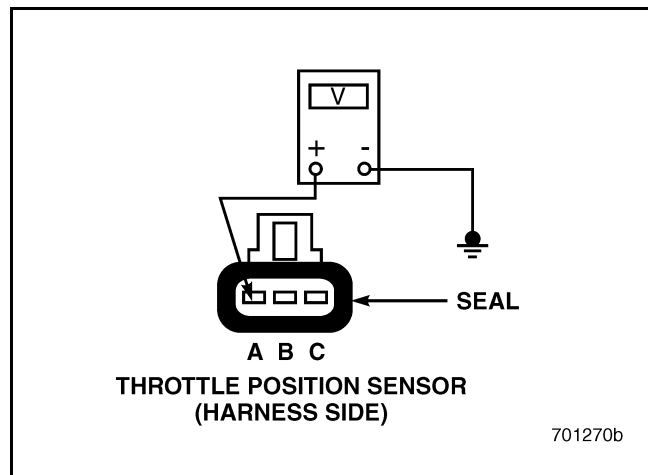

Figure 563
2. Disconnect the harness connector from the Throttle Position (TP) Sensor.
4. Measure the voltage between pin A on the harness side of the TP Sensor connector and a good ground (see Figure 563).